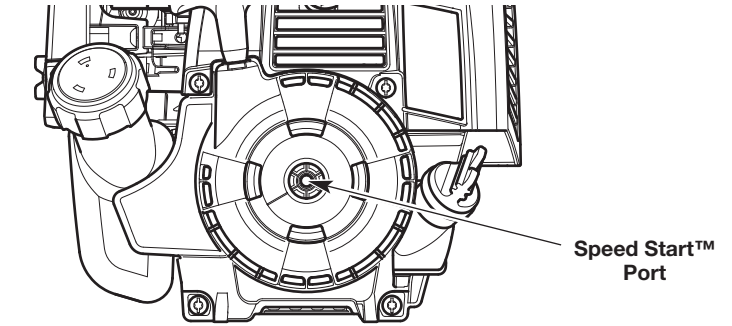

Fig. 20
5. Insert the Speed Start™ accessory into the Speed Start™ port (Fig. 20). Refer to the *Operation* section of the Speed Start™ accessory operator's manual.